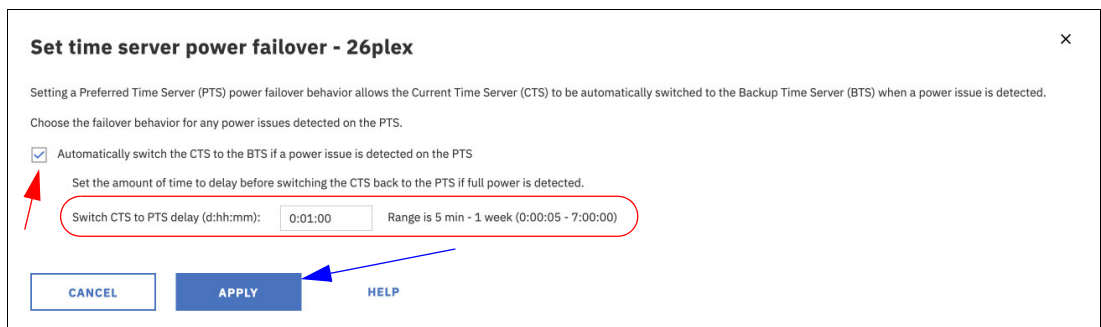

Figure 5-18 Set time server power failover menu
2. When you see the confirmation message that is shown in Figure 5-18, select the checkbox to enable the time server power failover option.